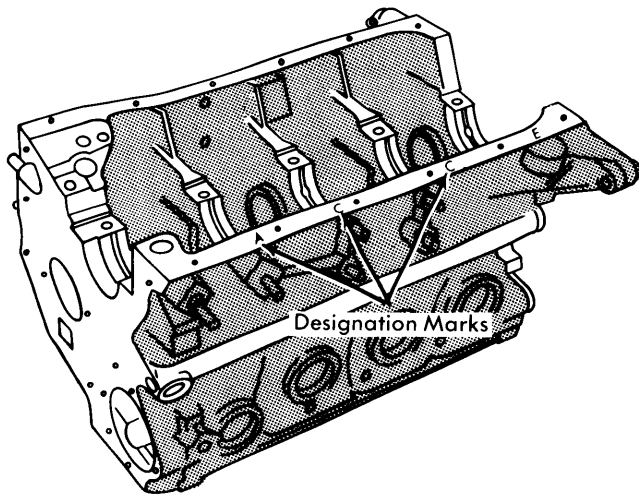

Fig. 4 Piston Bore Class Designation Marks
3) Measure piston size at right angle to piston pin and 1.876 (47.65 mm) below piston head. If piston is replaced for any reason, one of the same class must be installed. **NOTE** — Refer to class designation on cylinder block (see Fig. 4).